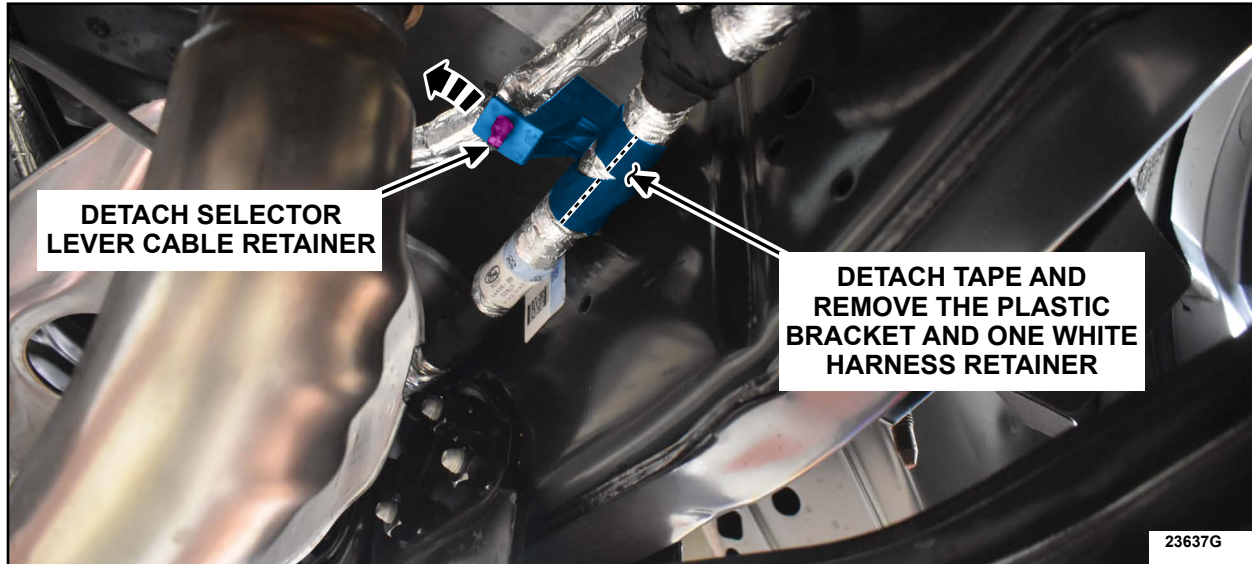

FIGURE 5
3. If still attached, detach the selector lever retainer from the plastic bracket on the main underbody wiring harness. Then, using a cutting tool, cut the tape and remove the plastic bracket retainer holder, from the main underbody wiring harness. **Note** the forward harness to frame clip will also be removed at the same time. See Figure 5.